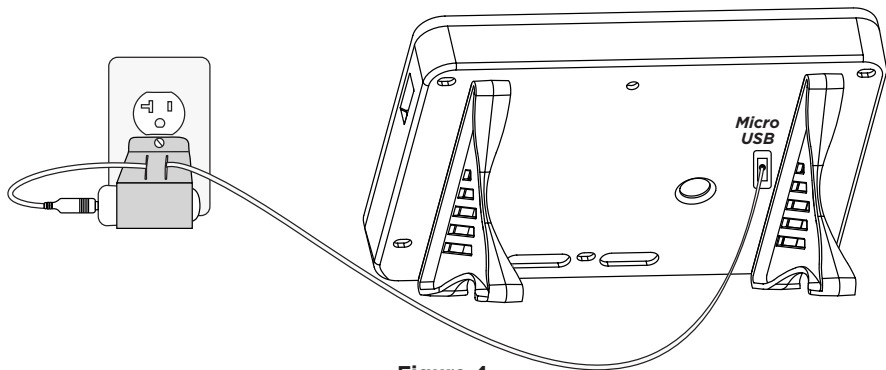

Figure 4
8. Plug the micro USB end of the cable into the back of the keypad. See Figure 4.